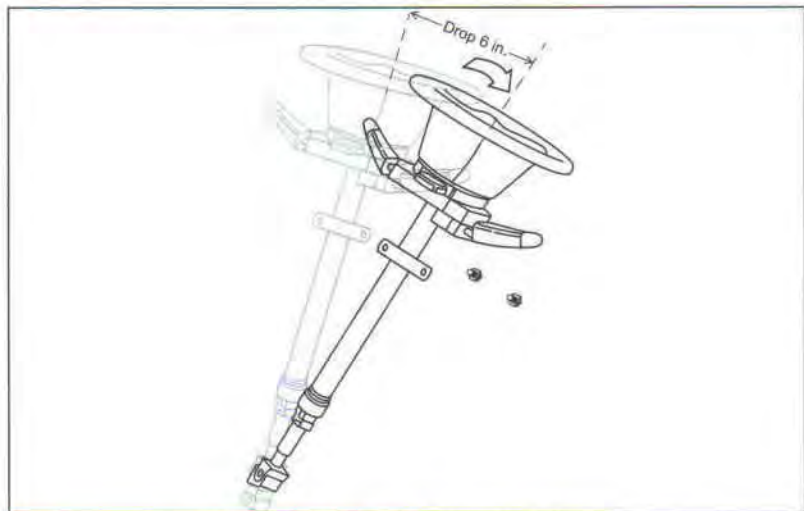

Figure 236 Lowering The Steering Column
7. Gently lower steering column about 6 inches (Figure 236).